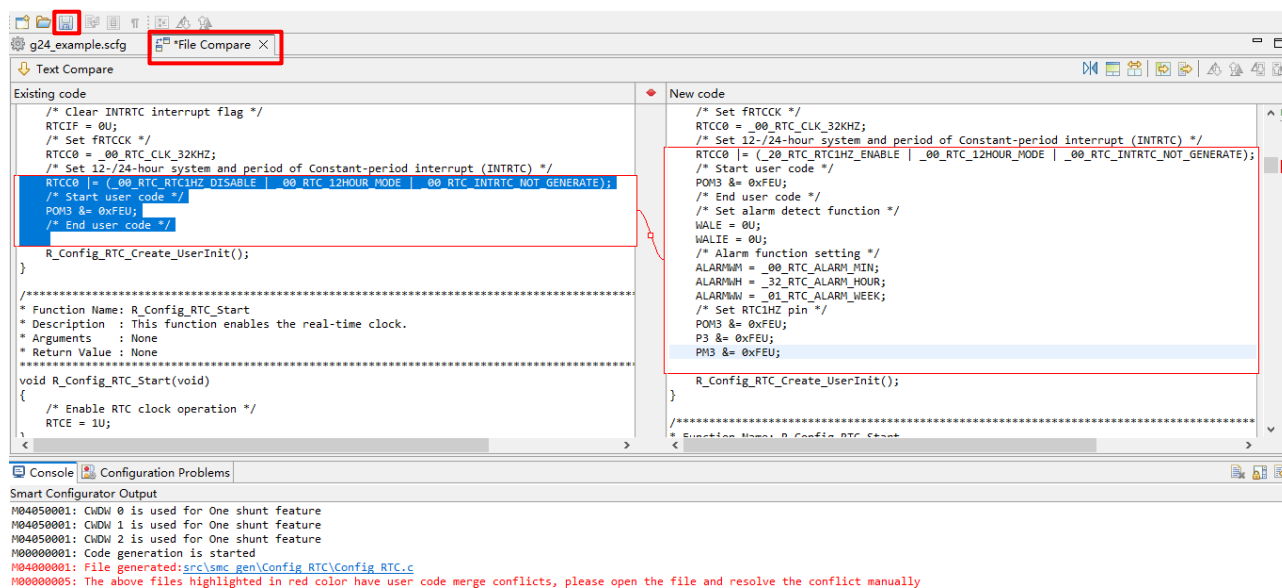

Figure 11-6 Code after Deleting and Saving
(4) Save the modified code (Figure 11-6 Code after Deleting and Saving).